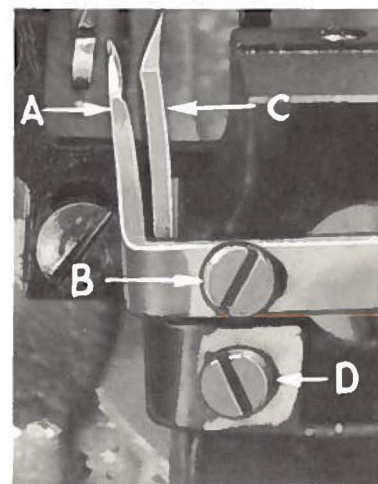

Fig. 6
Set rear needle guard (A, Fig. 6) as high as possible, without interfering with either lower looper or movement of lower knife holder, but still in position to deflect needle forward .002-.004 inch. Screw (B) is used to set rear needle guard. Make sure there is no interference between rear needle guard and lower looper.
Assemble front needle guard (C, Fig. 6). When lower looper is springing needle off back guard, set front needle guard as close as possible to needle without touching. Screw (D) is used to adjust and set front needle guard. After this setting make sure there is no interference between needle guards and differential feed dog.